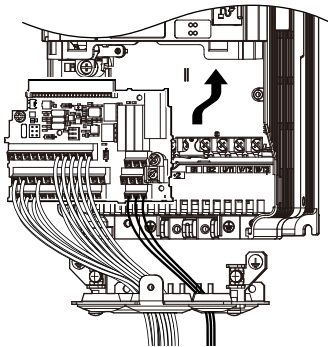

Figure 2.44 Install the Terminal Board
1. After wiring the main circuit, connect the terminal block to the drive as shown in Figure 2.44. Use the installation screw (M3: 0.49 - 0.73 N·m) to fasten the terminal block into place.